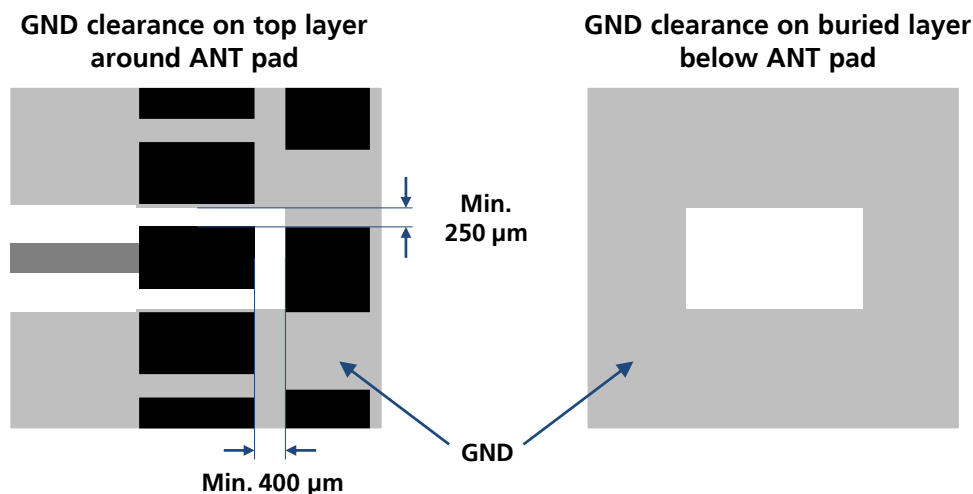

Figure 34: GND keep-out area on the top layer around ANT pad and on the very close buried layer below ANT pad
- Increase GND keep-out (i.e. clearance, a void area) around the **ANT** pad, on the top layer of the application PCB, to at least 250  $\mu\text{m}$  up to adjacent pads metal definition and up to 400  $\mu\text{m}$  on the area below the module, to reduce parasitic capacitance to ground, as described in the left picture in Figure 34
- Add GND keep-out (i.e. clearance, a void area) on the buried metal layer below the **ANT** pad if the top-layer to buried layer dielectric thickness is below 200  $\mu\text{m}$ , to reduce parasitic capacitance to ground, as described in the right picture in Figure 34